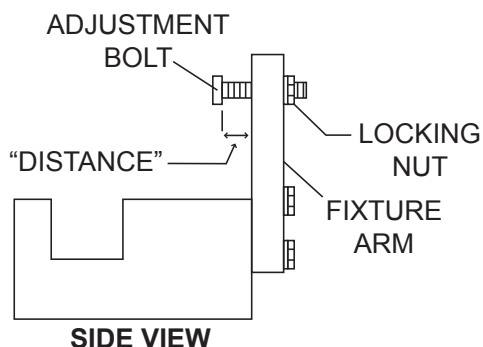

Figure 1. Adjustment Fixture
The adjustment fixture is shown in Figure 1. As each trowel arm is locked into the adjustment fixture, the trowel arm adjustment bolt is adjusted to where it contacts a stop on the adjustment fixture. This will consistently adjust all of the trowel arms, keeping the finisher as flat and evenly pitched as possible.
3. Loosen the locking nut on the adjustment fixture arm (Figure 1).
4. Using calipers, adjust the fixture adjustment bolt to the distance (Figure 1) for your particular trowel as specified in Table 1.